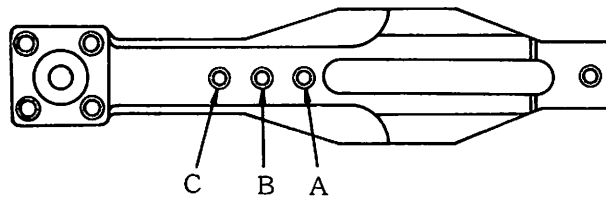

Fig. 71
1. Set the work clamp foot mounting base onto the feed plate carrier bar by using one of A, B or C screw hole according to the size of bar tacking, as shown in Fig. 71.
| | Lengthwise stitch size | Setting position (Screw holes, Fig. 71) |